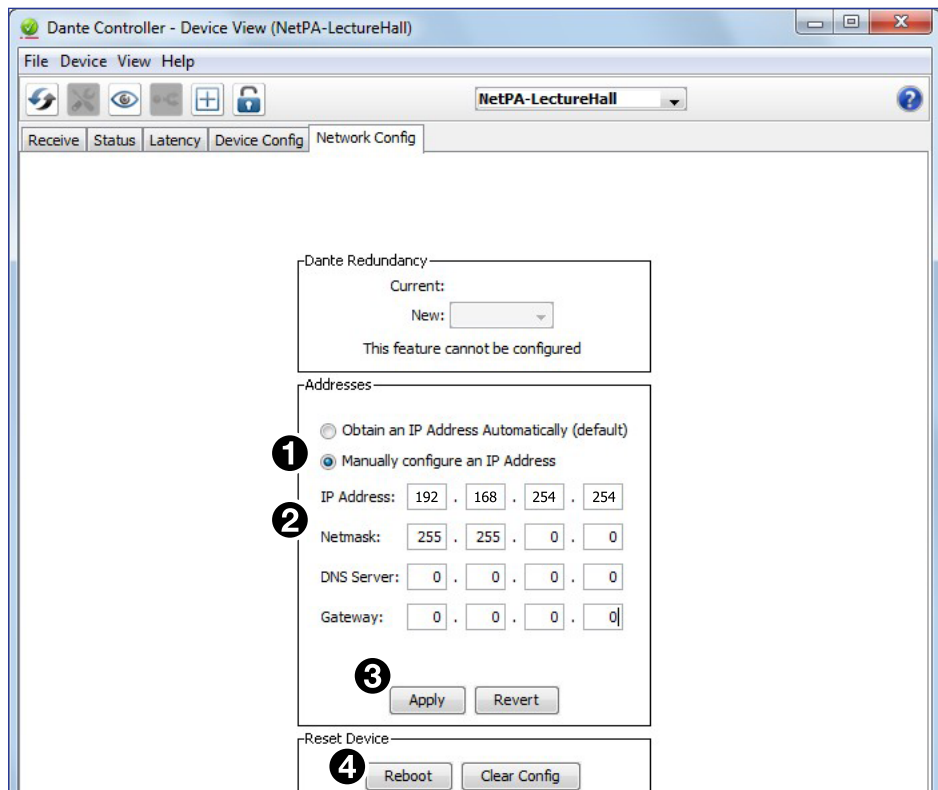

Figure 27. Configuring an IP Address
5. Click **Manually configure an IP Address** (see figure 27, ❶); then, enter the IP address and the subnet mask (❷).